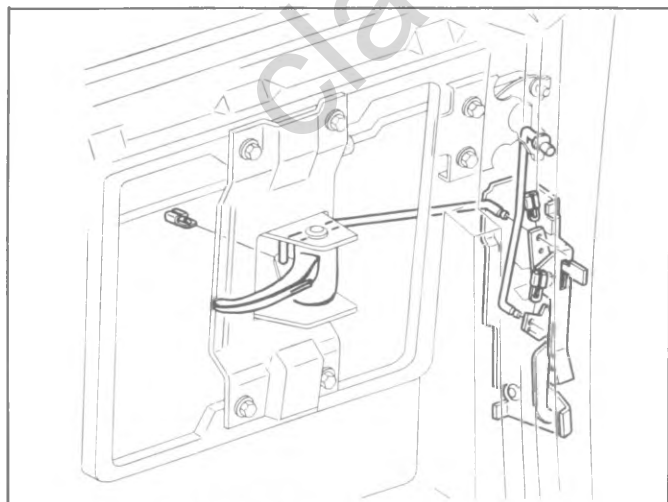

Fig. 2D-46--Lock Assembly and Inside Handle
Inside Handle--Fig. 2D-46
2. Disconnect control rod from inside handle by removing clip as shown in figure 2D-46.